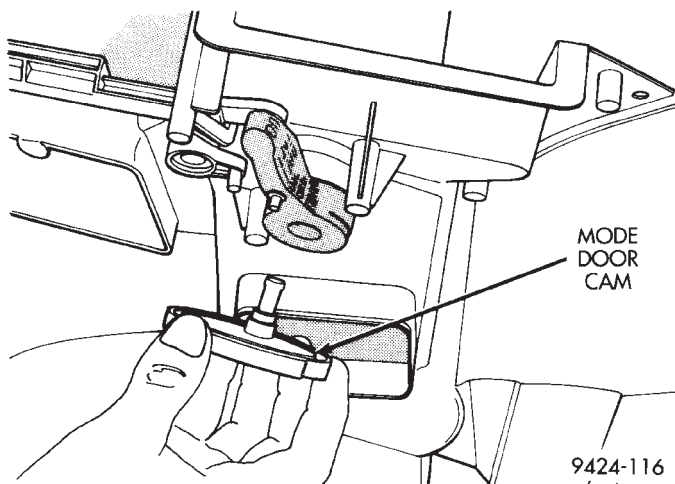

Fig. 86 Mode Door Cam
- (5) Install defrost door link to actuating arm.
- (6) Line up the slots to the pegs on the mode door cam. Install the mode door cam (Fig. 86).